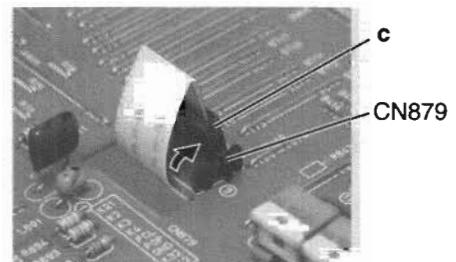

Fig.15
- Disconnect the card wire from connector CN879 on the main board (Before pulling out the card wire, stand the part **c** of CN879 as shown in Fig.15).